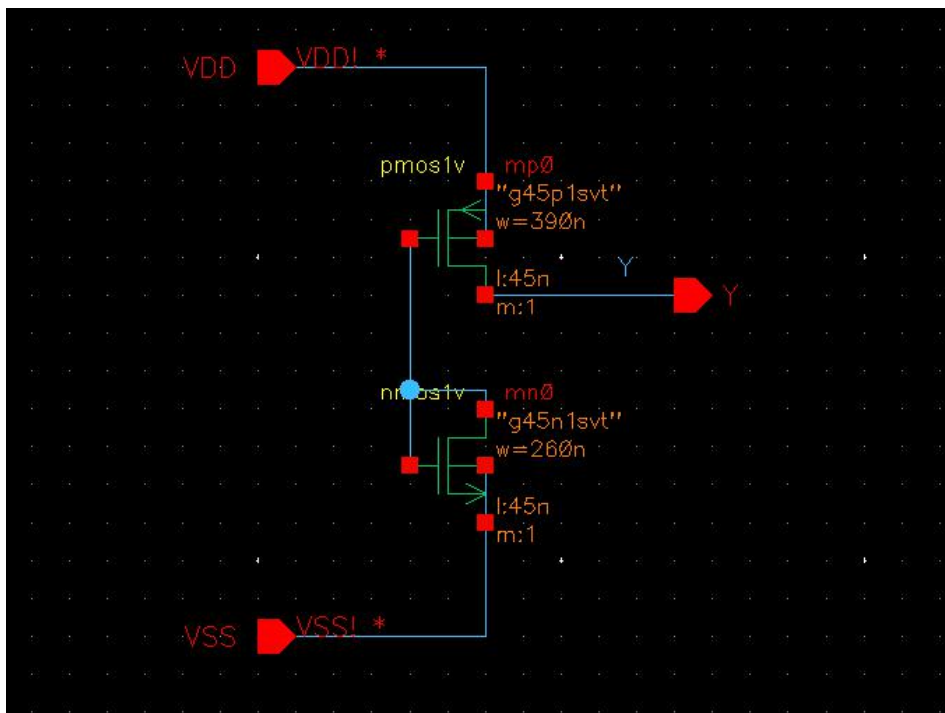
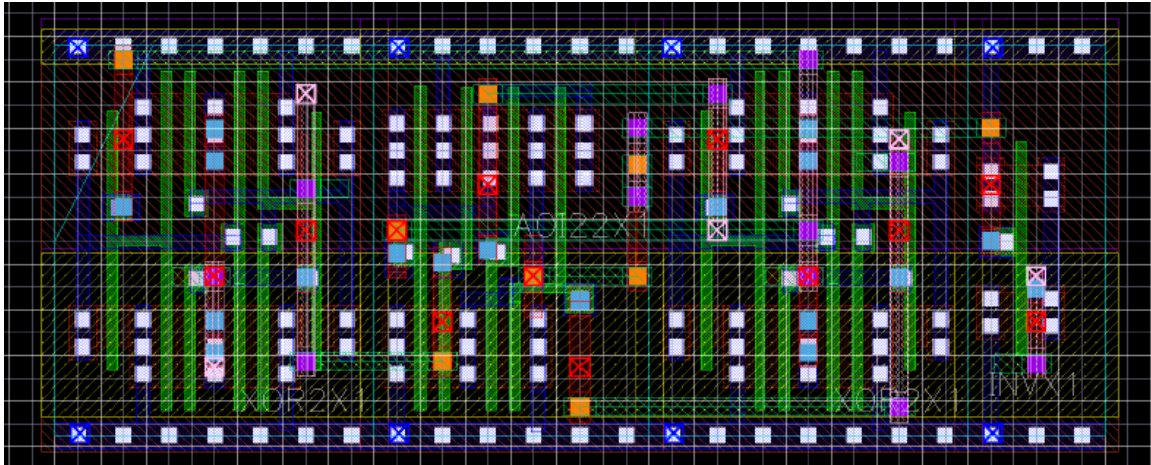

Figure 2 TIEHI pull-up cell
Figure 3 Example place and route of Full Adder (FA)
- b. A TIEHI pull-up cell (library cell `FML_TIEHI`); see Figure 2
2. Using gates from your standard cell library capture the schematic of a Full Adder (FA) in a new cell at one hierarchical level (library cell `FML_FA`). Place the cells, and auto-route following steps similar to those taught in EDA Tutorial 2. The result is a circuit with 3 inputs, and 2 outputs. Note the following exceptions to EDA Tutorial 2:
- a. When placing `FML_FA`, you must calculate the PR boundary to be the same width and height of the placed cell so that the final `FML_FA` has the **same height as your standard cells** (without routing channels), and can abut cleanly with your standard cells, see Figure 3.